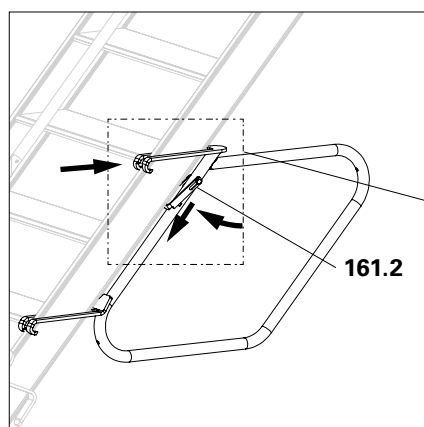
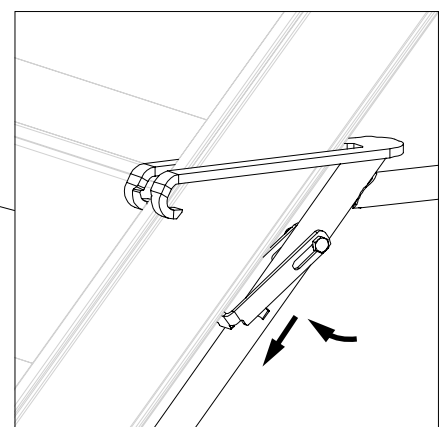

Fig. A8.11c
Fig. A8.11d
3. Swing out the locking pin (**161.2**) and pull it down between the stair tower and the stair guardrail. (Fig. A8.11c + Fig. A8.11d)